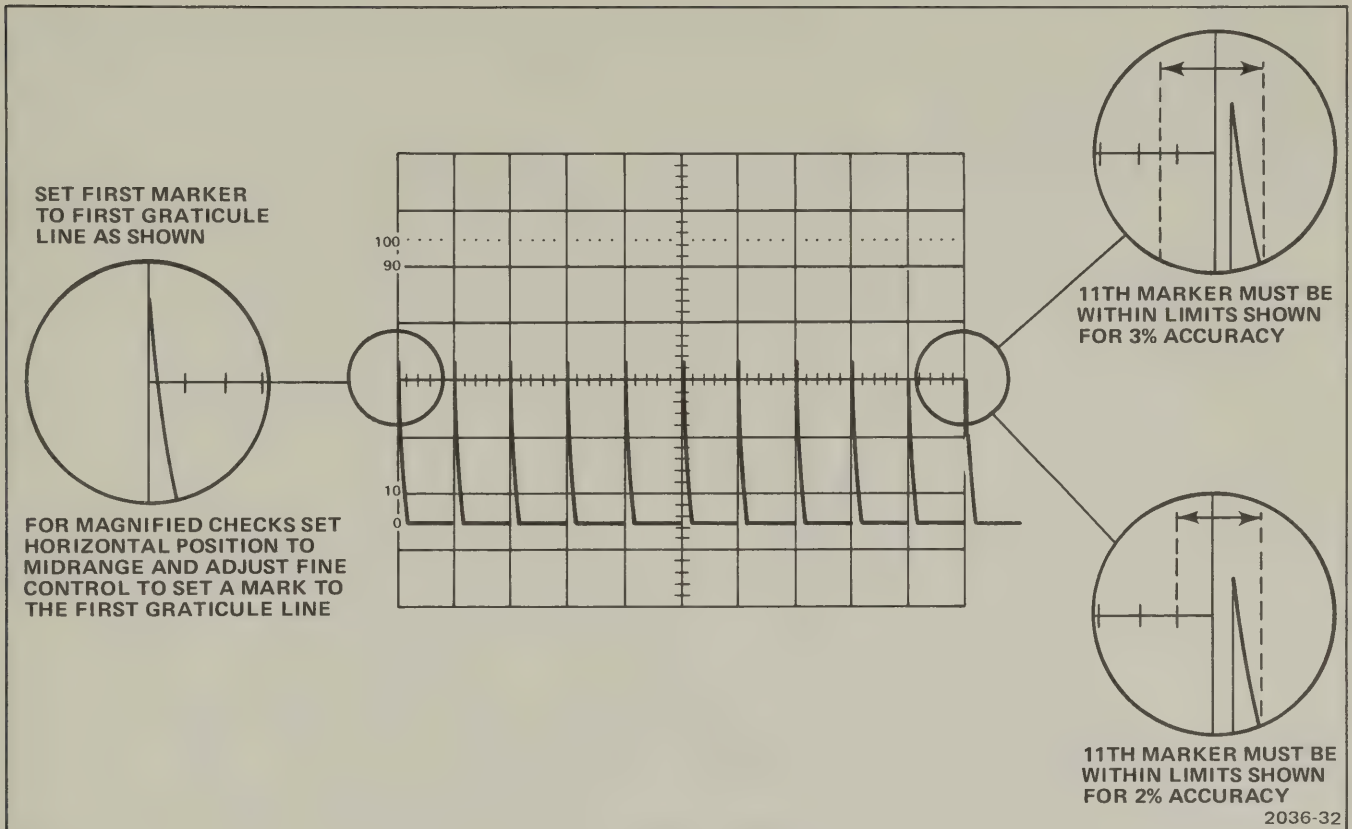

Fig. 6-4. Timing accuracies.
- e. **ADJUST**—If necessary, C1261 and C1281 (465) or C1262 and C1265 (464 or 466) equally for one time marker every two divisions. Repeat parts c through e as necessary.
- CHECK**—A TIME/DIV accuracy is within 2% (see Figure 6-4).
- CHECK**—B TIME/DIV accuracy is within 2% (see Figure 6-4).
- CHECK**—A magnified TIME/DIV accuracy is within 3% (see Figure 6-4).
CHECK—B magnified TIME/DIV accuracy is within 3% (see Figure 6-4).